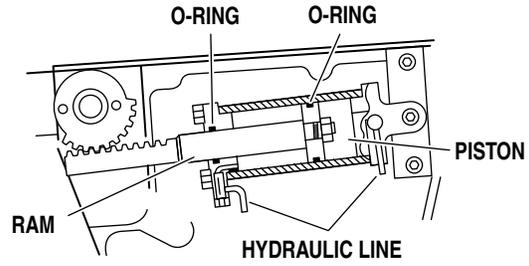

Figure 1-10. Back Section Cylinder
1. Back Section and Leg Section Cylinders - The double action cylinders are closed at one end and have a movable piston with hydraulic fluid on both sides. Connected to this piston is a ram or shaft that exits out of the other end of the cylinder. Through the use of either a gear, or clevis and pin arrangement, this ram is connected to a movable table surface. The movable surface can be moved one way or the other by pumping hydraulic fluid into the cylinder on either side of the piston. Obviously, if oil is pumped into one side of the cylinder, a return path must be provided for the oil on the other side. See figure 1-10.